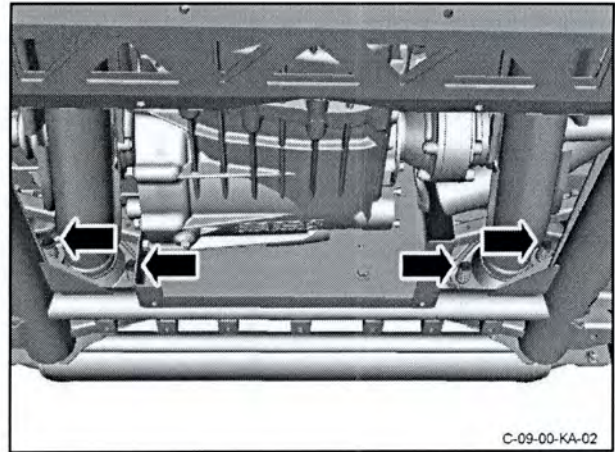

Figure 3
8. Remove the four bolts and collect the four springs that attach the exhaust centre pipe to the muffler and bypass valve assembly (refer to Figure 3).